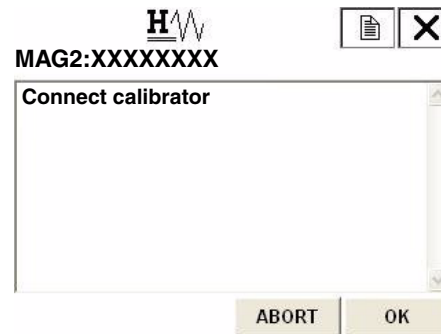

Figure 114.
2. Figure 114 then appears. Connect the calibrator, and then press F4 (OK).